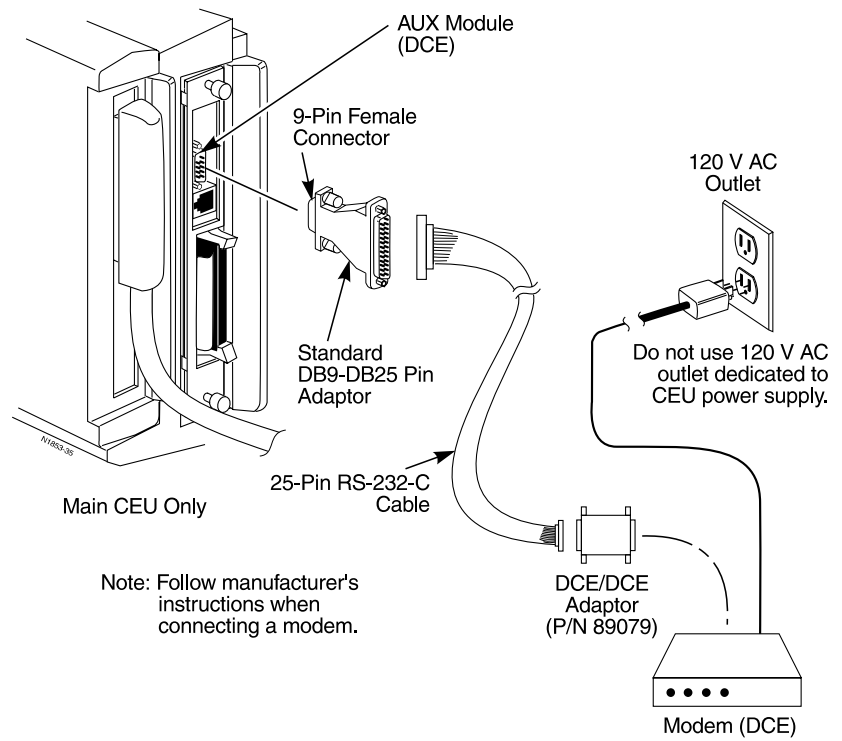

FIGURE 17
4. Connect the other end of the DCE-DCE adaptor or null modem cable to the modem's serial port. See Figure 17.